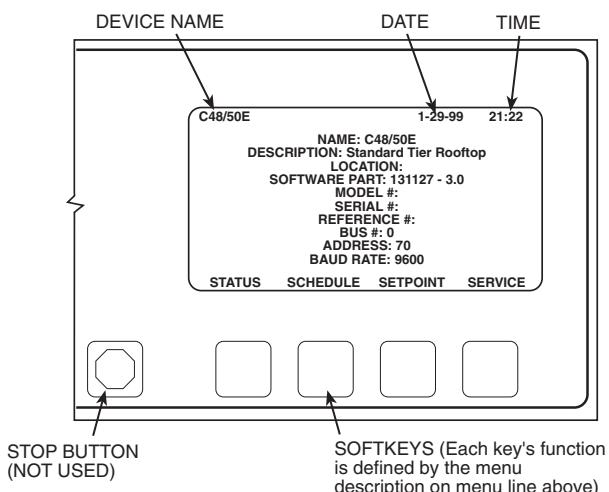

Fig. 12 — Remote Enhanced Display Controller ID Screen, 48/50E Series Units
- Once the uploading process is complete, the display will show the default screen for *ComfortLink™* and 30GX,HX PSIO based applications; or for 48/50E series applications, the controller ID screen will appear showing pertinent information of the controller. See Fig. 12 and 13. The enhanced display is ready for use.